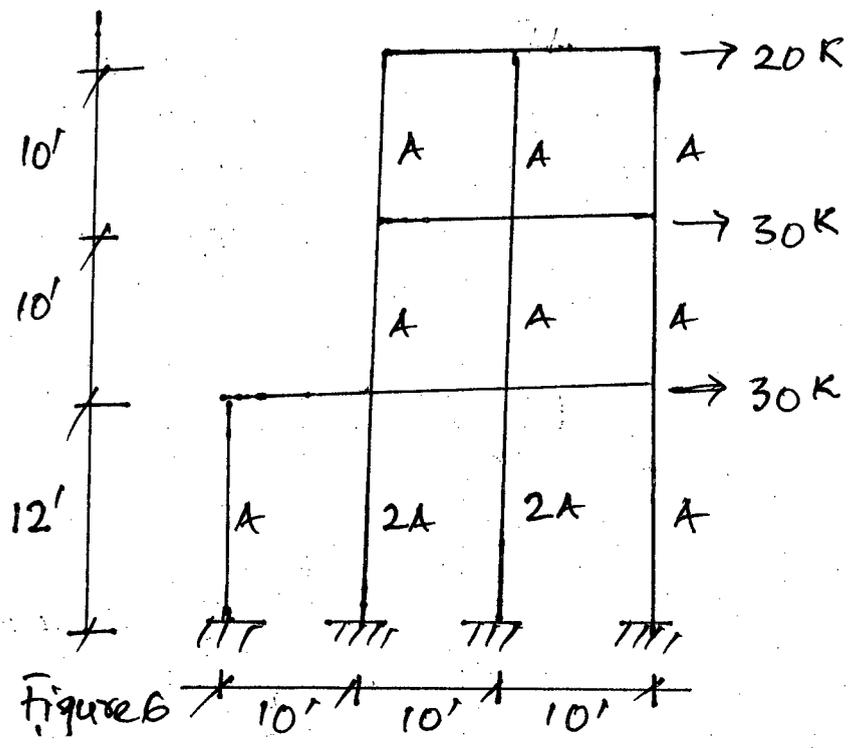

Figure 6
4. Using Cantilever method, draw the axial force, shear force and bending moment diagrams of the beams and columns for the building as shown in Figure 6. Relative column cross-sectional areas are given beside the columns. (46 $\frac{2}{3}$)